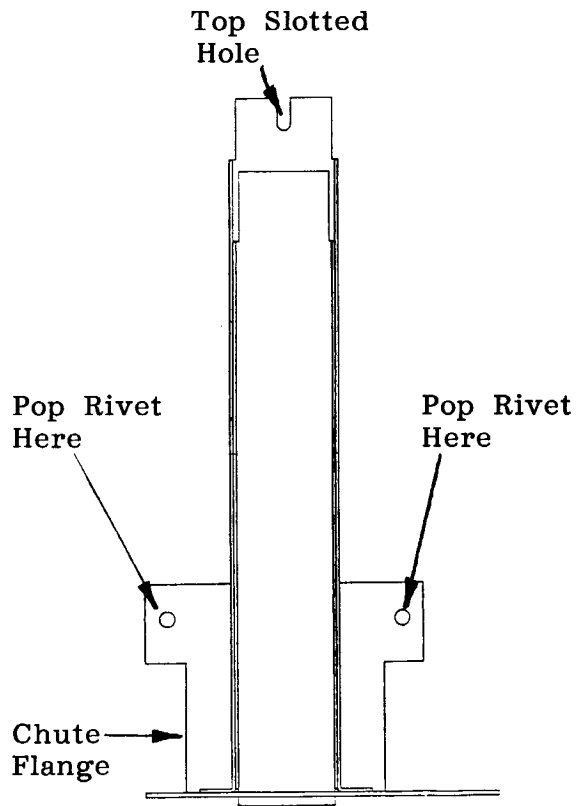

Figure 2
17. Drill (2) two 7/32" diameter holes on the locations marked in step 15.
19. Secure in position with (2) two 3/16" pop rivets.
21. Locate the top slotted hole in the Honor Gard Chute. (See figure 2, page D3.)
22. Drill (1) one 7/32" diameter hole through the access door at the slotted hole.
23. Secure with (1) one 3/16" pop rivet. Important: Flat side of the pop rivet needs to be on the changer side of the access door.